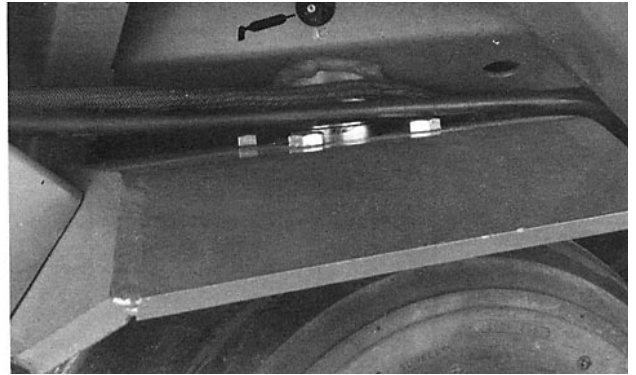
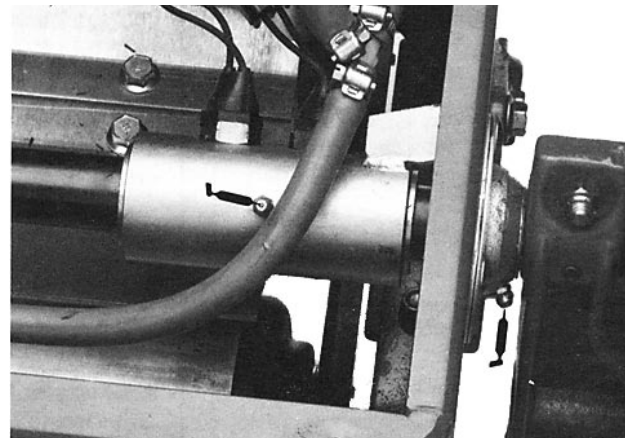
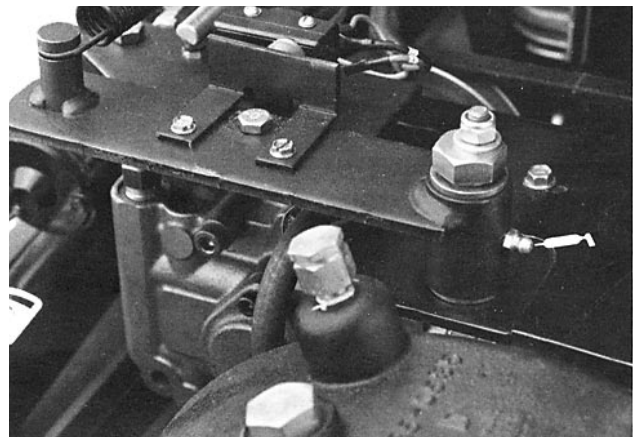

Figure 14
Figure 15
Figure 16
The bearings and bushings that must be lubricated are: steering pivot shaft (Fig.14), limit switch housing (Fig. 15) (2) on lift arm shaft (Fig. 15) and neutral pivot shaft (Fig. 16).